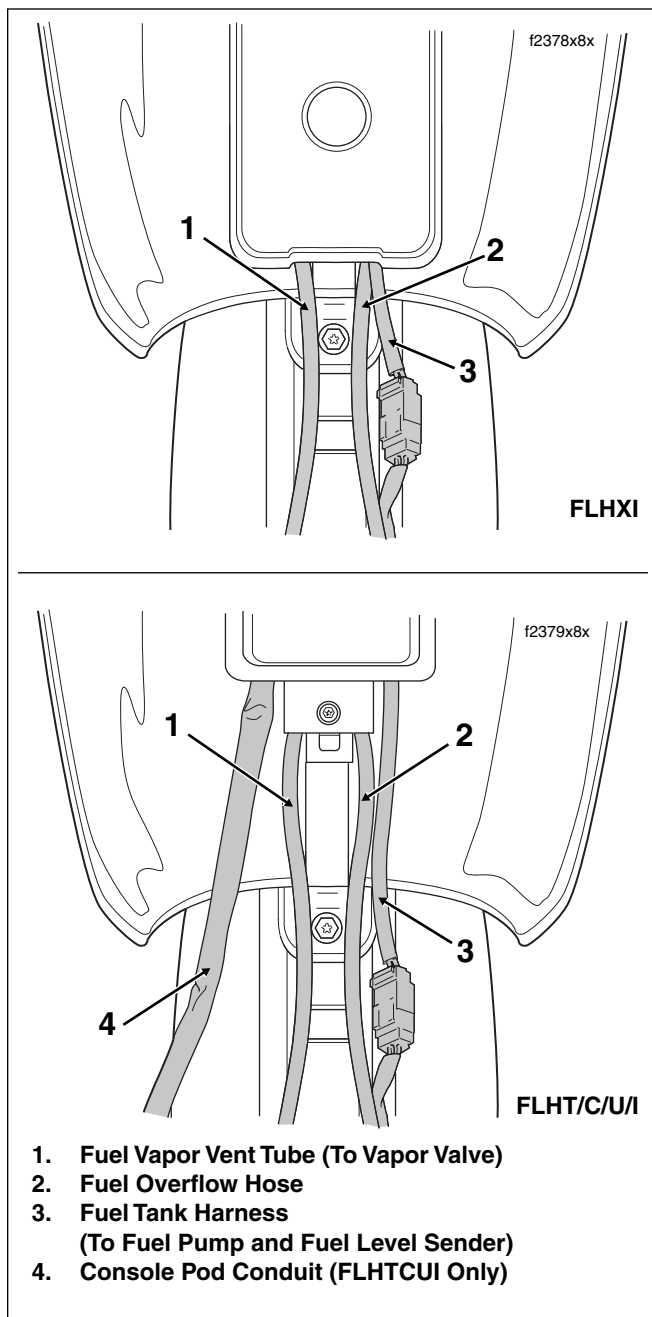

Figure 9-12. Console Cable/Hose Routing (FLHXI, FLHT/C/U/I)
7. Remove filler cap. Exercising caution to avoid pinching harnesses, overflow hose and vent tube, position console on canopy as shown in Figure 9-12. Reinstall filler cap.
6. Remove filler cap. Exercising caution to avoid pinching harnesses, overflow hose and vent tube, position console on canopy as shown in Figure 9-12. Reinstall filler cap.